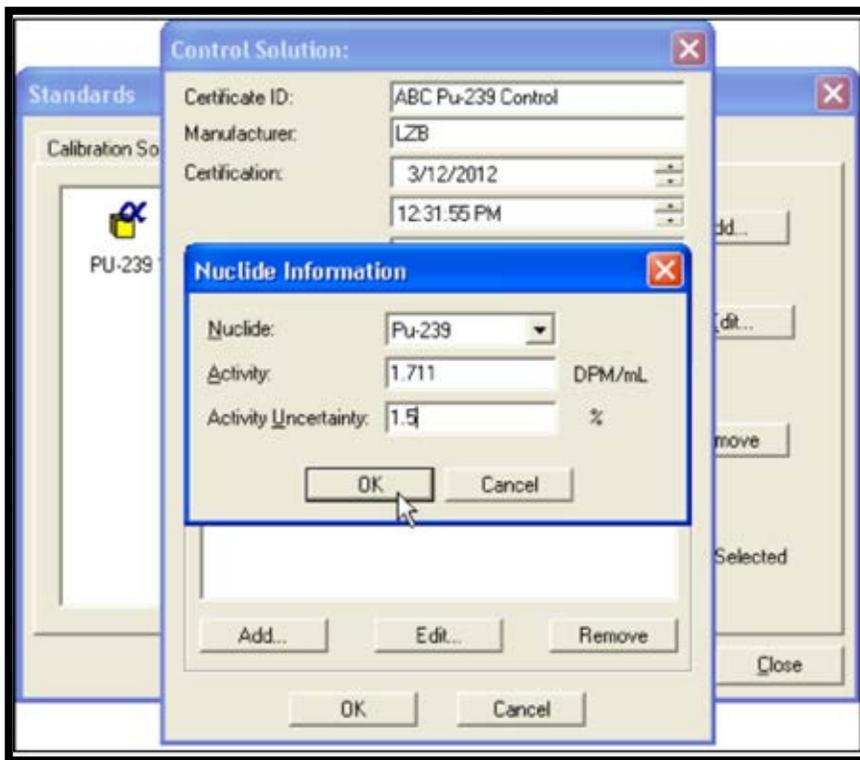

Figure 74. Nuclide Information
Select the **Solution Activity Units** from the drop list and choose **mL** or **g** for the **Quantity Units**. The resulting activity-per-volume units will be displayed beside the **Activity** field on the Nuclide Information dialog (Figure 74).
- 4) To add a nuclide to the Control Solution record, click **Add** to open the Nuclide Information dialog (Figure 74). Select  $^{239}\text{Pu}$  from the **Nuclide** drop list and enter its certified **Activity** in the selected activity-per-volume units. If desired, the percent **Activity Uncertainty** associated with the diluted standard can also be entered. This user-defined uncertainty is at the one-sigma level (and is normally based on the uncertainty associated with the preparation of the diluted standard and the stated uncertainty on the laboratory control standard certificate).